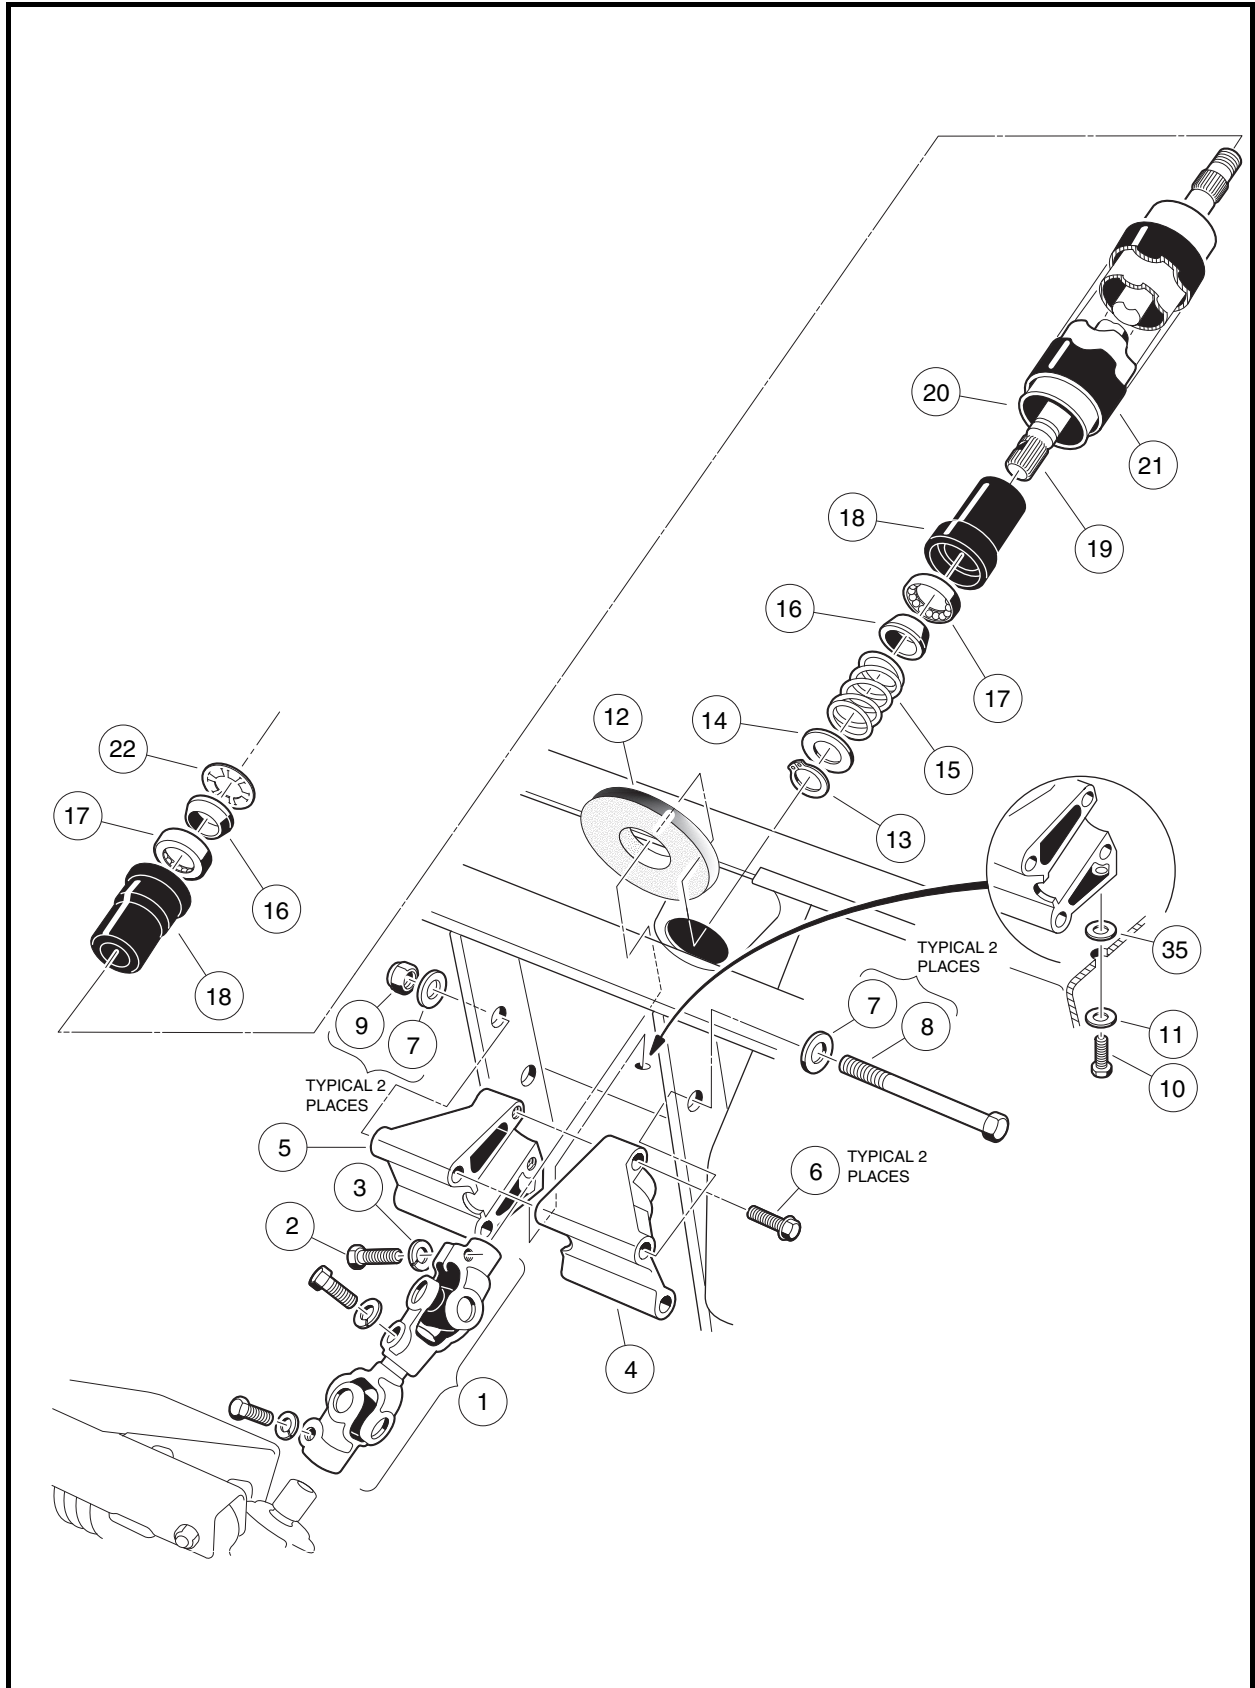

Figure 7-3 Steering Column
5. Remove the upper bolt (2) and lock washer (3) from the universal joint (**Figure 7-3, Page 7-3**).
6. Remove the nuts (9), bolts (8 and 10), and washers (7 and 11) from the steering column mount (4 and 5) (**Figure 7-3, Page 7-3**).
1. Remove bolts (6) and mounts (4 and 5) from steering column. Remove boot (12) (**Figure 7-3, Page 7-3**).
2. While supporting steering column (20) on a workbench, remove snap ring (13) from shaft. **See following NOTE.**
4. Insert the shaft (19) from the bottom of the steering tube (20) (**Figure 7-3, Page 7-3**).
1. Install boot (12). Reinstall mount (4 and 5) onto the end of the steering column. Tighten bolts (6) to 20 ft-lb (27 N·m) (**Figure 7-3, Page 7-3**).
3. Position the steering column assembly in the vehicle while inserting the steering column shaft into the upper universal joint (1). The flat portion of the steering shaft spline (19) must be aligned with the bolt hole in the universal joint (1) before sliding the spline into the universal joint. While holding the steering column in place, attach it to the frame using bolts (8), washers (7), and nuts (9) (**Figure 7-3, Page 7-3**). Thread the nuts onto the bolts but do not tighten them.
4. Install wide washer (35), washer (11) and screw (10). Tighten to 20 ft-lb (27 N·m) (**Figure 7-3, Page 7-3**).
5. Install the bolt (2) and lock washer (3) on the upper universal joint and finger-tighten.
6. Tighten the two nuts (9) and bolts (8) to 18 ft-lb (24.4 N·m) (**Figure 7-3, Page 7-3**).
7. Tighten the bolt (2) on the upper universal joint to 15 ft-lb (20 N·m) (**Figure 7-3, Page 7-3**).
8. Check the other two bolts of the universal joint (1) to ensure that they are properly tightened to 15 ft-lb (20 N·m) (**Figure 7-3, Page 7-3**).
5. Remove the bolt (2) and flat washer (3) on the upper universal joint, then remove the rack assembly and universal joint from the vehicle (Figure 7-3, Page 7-3).